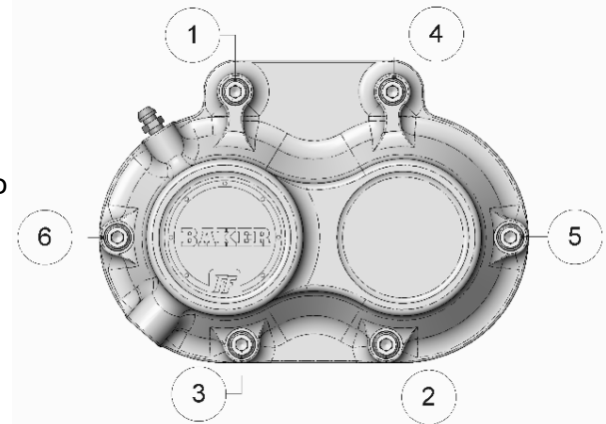

FIGURE 4 | TORQUE SEQUENCE
11. Using the provided fasteners, torque the side cover bolts to 130 in-lb using blue thread lock. Refer to the proper torque sequence to the right (figure 4).